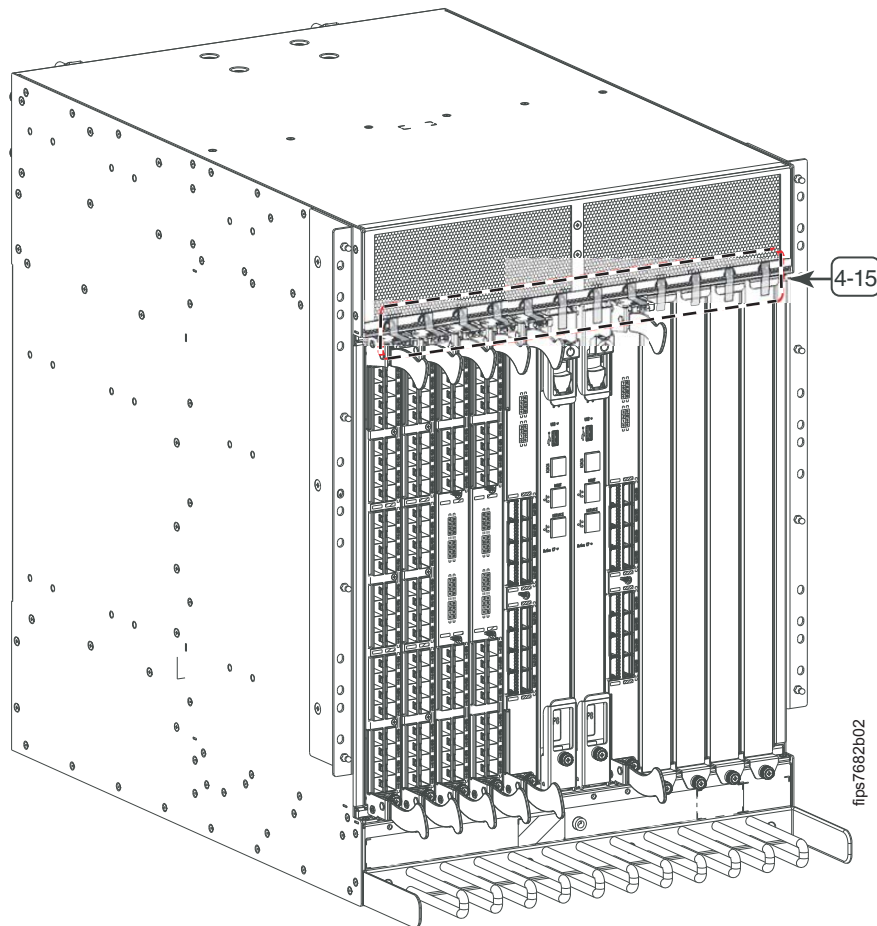

Figure 53. 2499-816 port side seal location
Figure 53 shows the port side of the 2499-816 with the chassis door removed. The chassis door can be removed by grasping two edges of the door and pulling it straight out. Refer to the SAN768B-2 installation, service, and users guide for full instructions on any component removal. Refer to the figure when performing this procedure.
Twelve (12) seals are required (**4-15** in Figure 53), one seal for each blade or filler panel installed in the port side of the 2499-816 chassis.